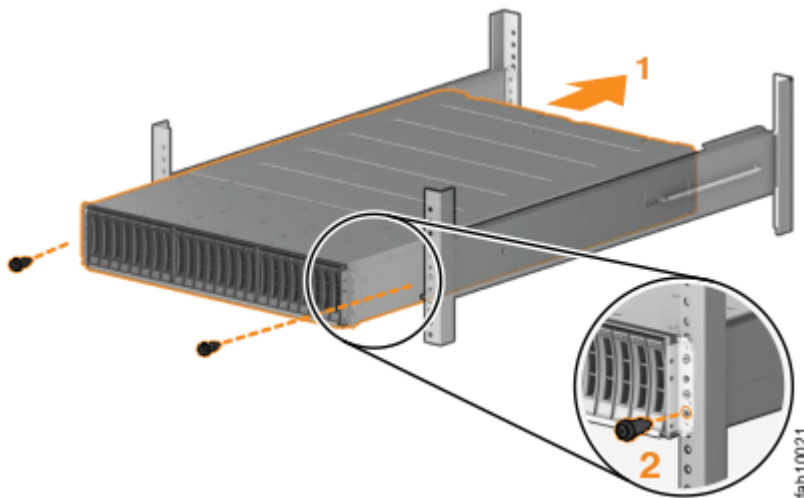

Figure 11. Inserting the enclosure
3. Slide the enclosure into the rack along the rails until the enclosure is fully inserted. See Figure 11 on page 15.